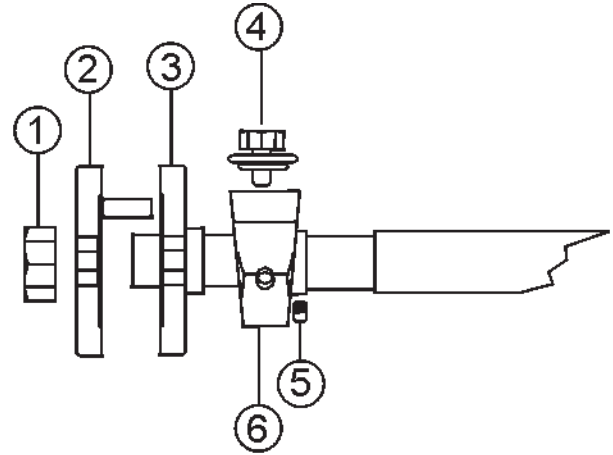
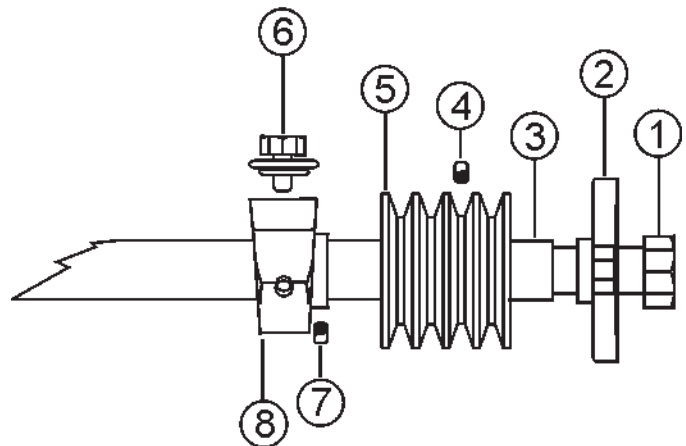

Figure 57. Blade Side Bearing (Right Side)
Figure 58. Pulley Side Bearing (Left Side)
The Cutter 3 CE saw is supported by “tapped base lock collar (w/set screw)” self-aligning **Blade Shaft Bearings** (Figures 57 and 58). These heavy duty bearings support the 1-1/4 blade shaft, and have grease (zerk) points conveniently located for service.
Reference Figure 57 & Figure 58 for steps 4-9
4. Remove **Blade Hex Nuts** (Figures 57 & 58, item 1) and
Outside/Inside Blade Flanges (Figures 57, item 2 & 3)
5. Loosen **set screws** (Figure 58, item 4) and slide **Pulley** (Figure 58, item 5) off the Blade Shaft. Loosen Bearing set screw, remove **Bearing Bolt** (Figure 58, item 6) and slide the **Blade Shaft Bearing** (Figure 58, item 8) off the blade shaft.
6. Loosen **set screws** (Figure 57, item 5), remove **Bearing Bolt** (Figure 57, item 4) and slide the **Blade Shaft Bearing** (Figure 57, item 6) off the blade shaft.